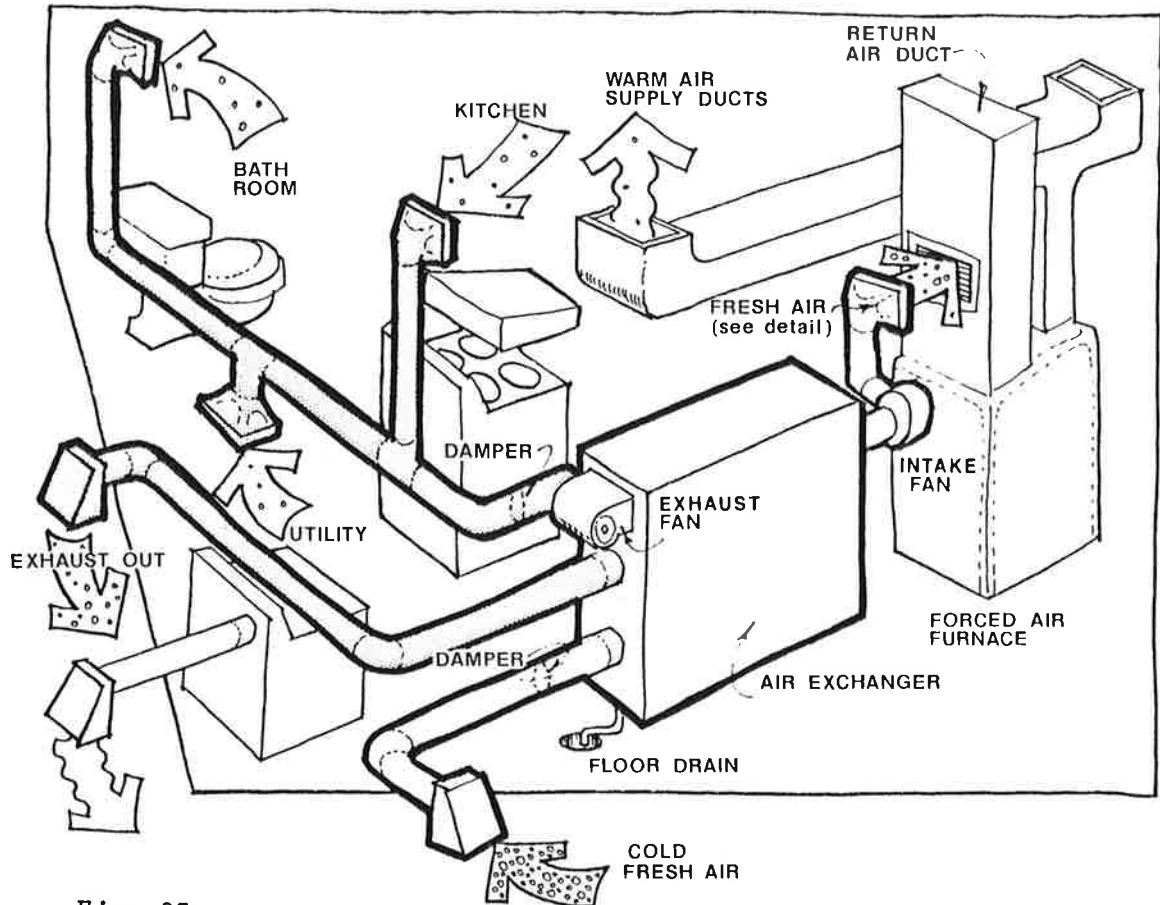
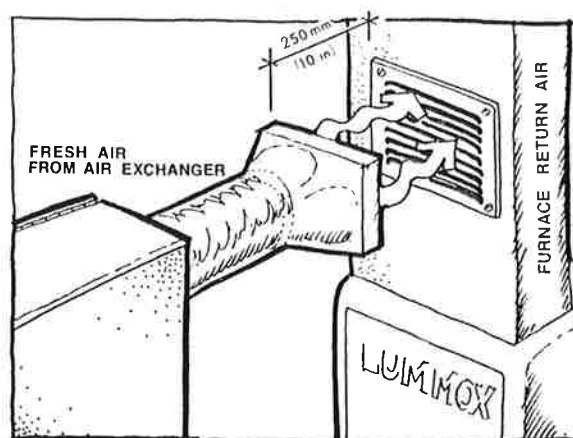

Fig. 23
Fig. 25
Figure 23 is a schematic diagram showing the recommended duct locations for air exchanger systems installed in houses with a forced air heating system.
8. In the forced air heating system shown in fig. 23, the fresh air from the air exchanger should not be directly connected to the furnace cold air return as operation of the furnace fan can create a serious flow imbalance through the exchanger. It is recommended instead that this air be exhausted near an inlet grille in the fresh air return duct as shown in Fig. 25